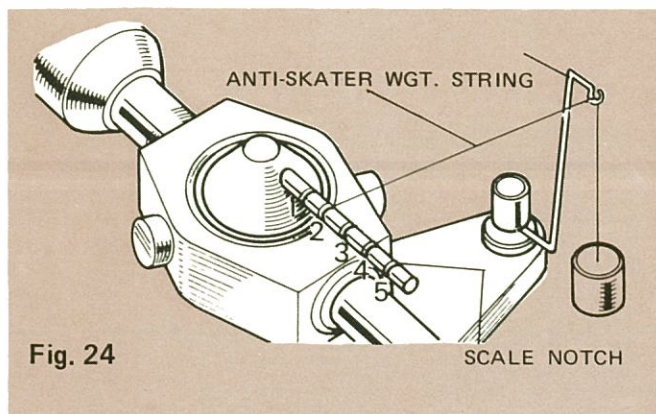

Fig. 24
- d) Fasten the string of the anti-skater weight (often referred to as inside force canceller) to the #2 notch, **See Fig. 24**
- a) Install the hanger, fasten the string to the tone arm assembly and mount the weight as indicated in **Fig. 24**